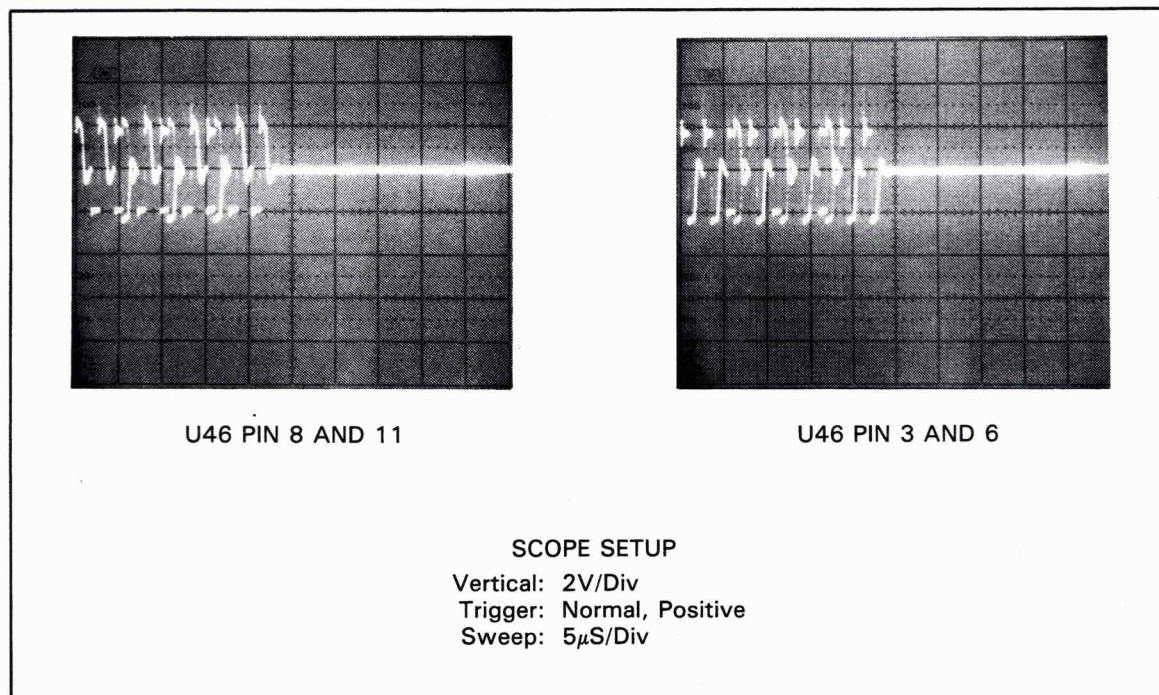

Figure 8-A1-4. Outguard Crossguard Logic Output Signals
4. Turn the 3497A on and check the signals shown in Figure 8-A1-5 at pins 4 and 7 of U49 (on the outguard crossguard logic circuitry). (Note: The signals will not remain steady on the scope. They will flash on and off at a certain rate.)